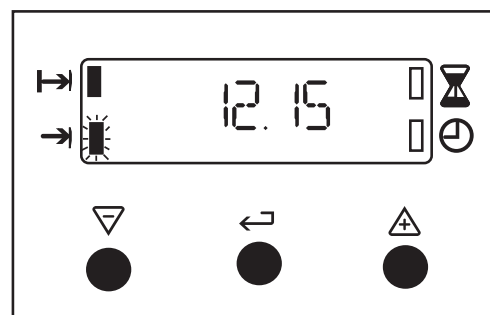

Fig.8.
- v) To set the 'End Time'. Press the Selector Control button until the 'End Time' indicator neon flashes. Press the increase control button (+) until the required stop time is displayed, e.g. 12.15 p.m. as Fig. 8. If necessary depress the decrease control (-) until the correct time interval is achieved.